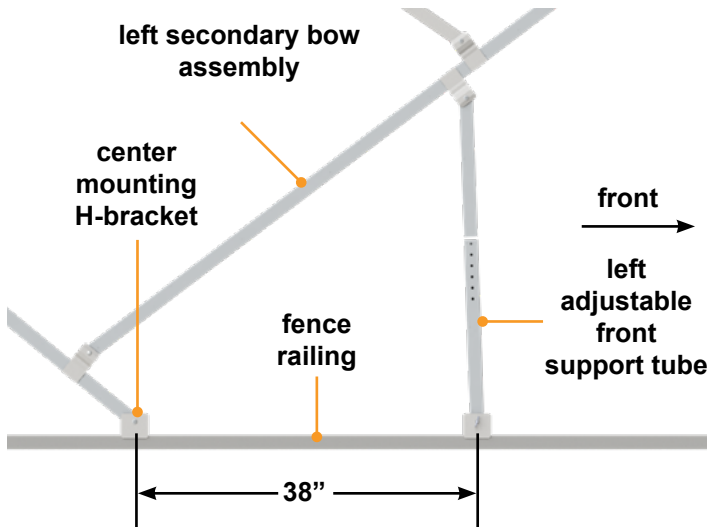

Fig.27
1. Use a tape measure and pencil to locate and mark along the left and right fence railings 38" from the pivot pin in the center mounting H-bracket to each left and right adjustable front support tube (Fig.27).